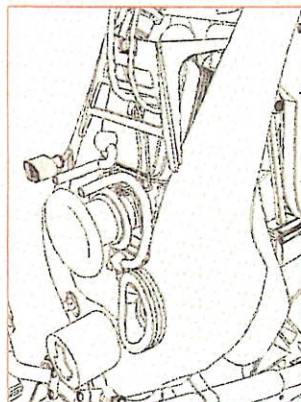

Figure 9
7. Do the same with the flange on the velocity stack. Push both crankcase vent hoses through the airbox floor. Reach under the airbox floor and disconnect the IAT sensor connector. It has a push to release type lock. (Figure 9)